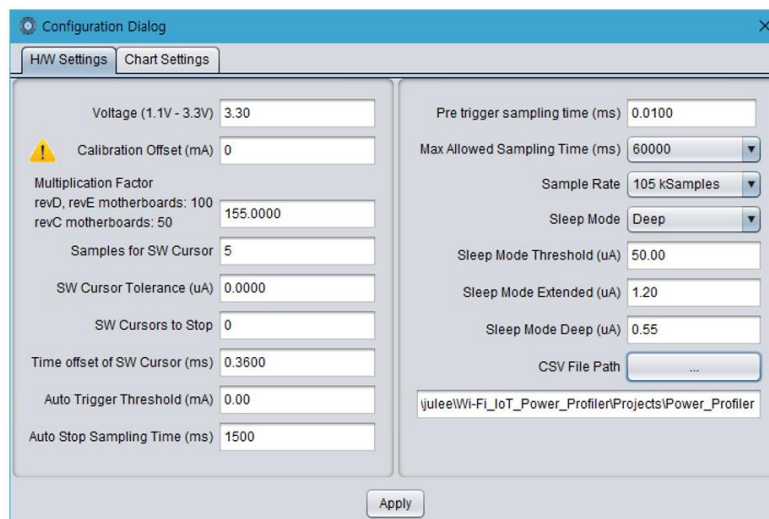

Figure 60: Setting Offset to Zero
2. In the main window of the Power Profiler, click **Config** and temporarily set the **Calibration Offset (mA)** field to zero as shown in Figure 60.